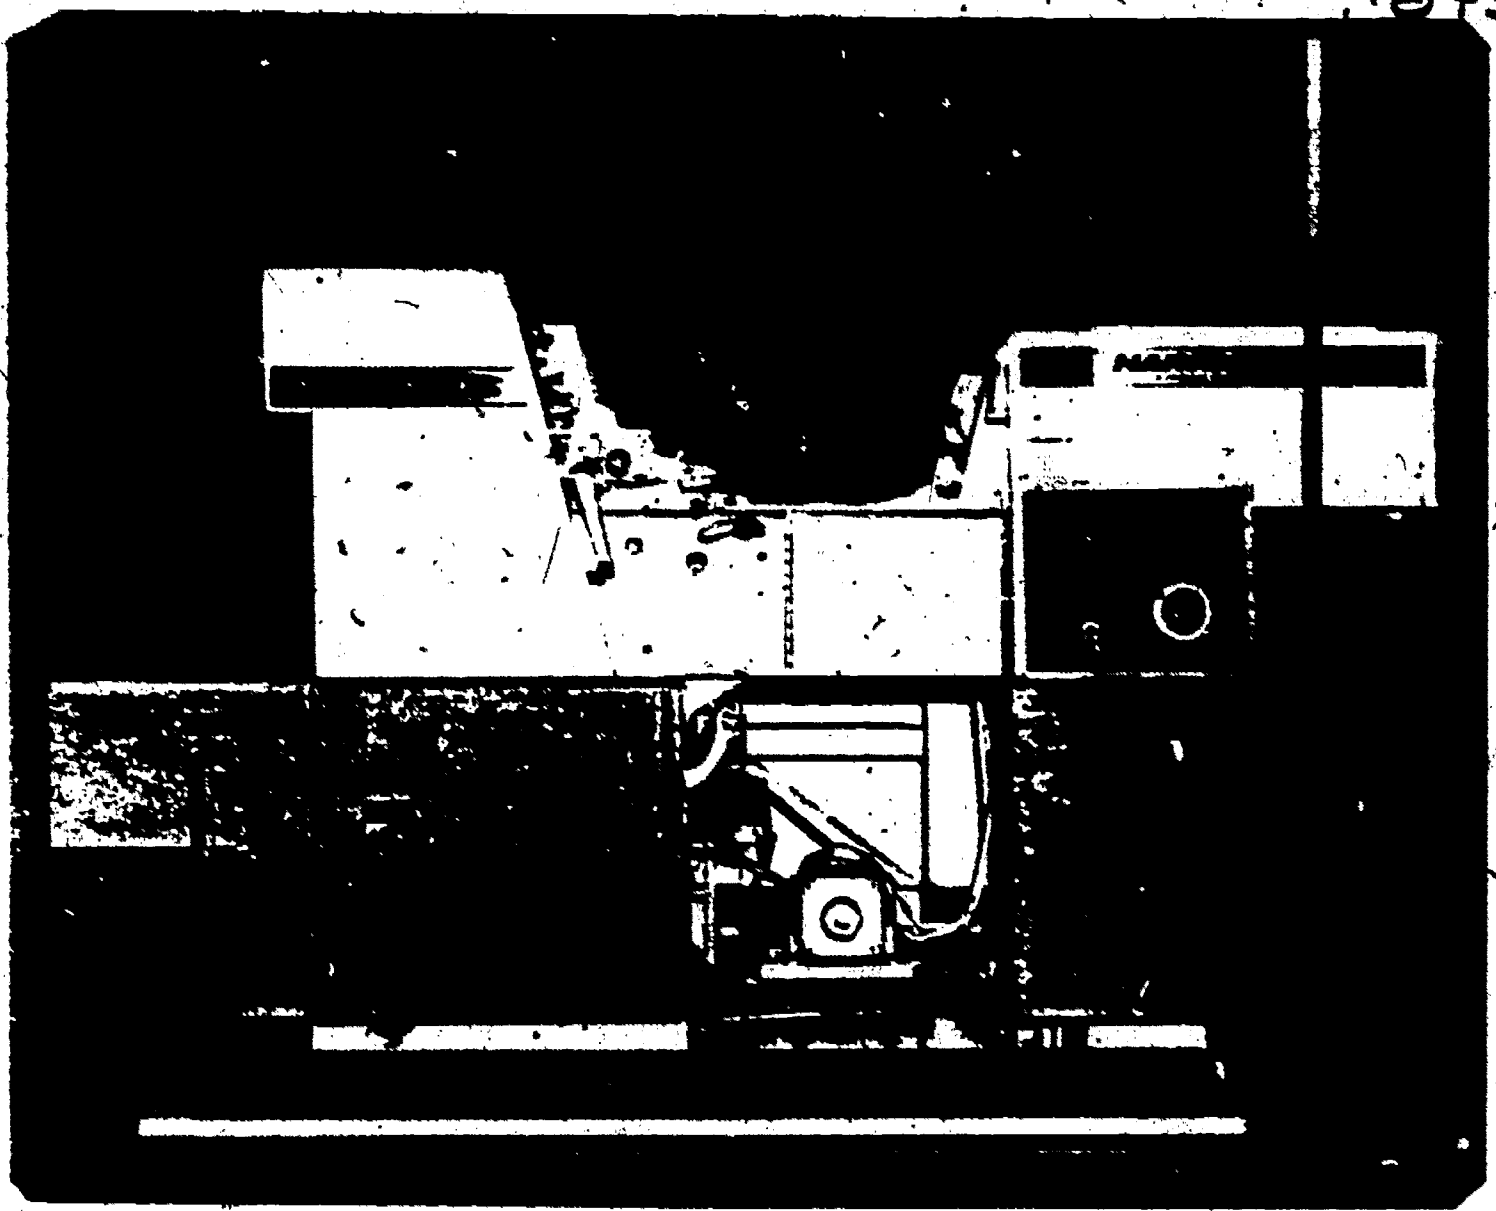

Figure 8-3. Harris LXG Press.
a. Figure 8-3 illustrates the basic terms used to locate oneself with relation to the press: